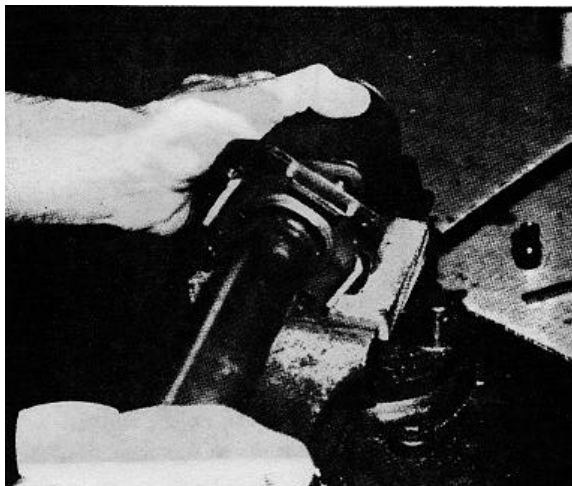

FIGURE 9-14.
d. Remove control assembly from vise and check for free rotation of the control spool and sleeve parts with column shaft (see figure 9-14).